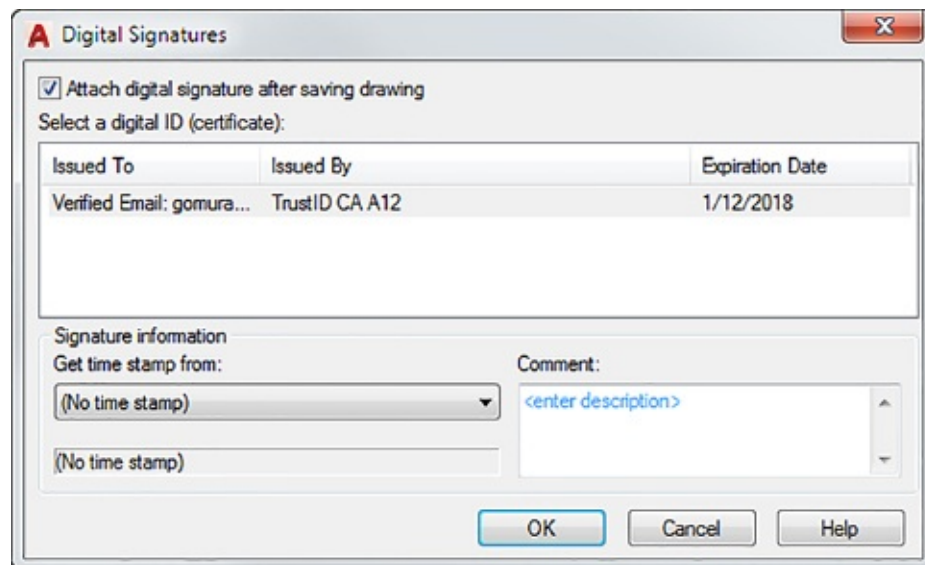

FIGURE 25.4 Attach a signature.
1. Open the drawing to which you want to attach the digital signature, and then open the Digital Signatures dialog box by entering **Digitalsign** ↵ at the Command prompt. The Digital Signatures dialog box appears (see Figure 25.4).